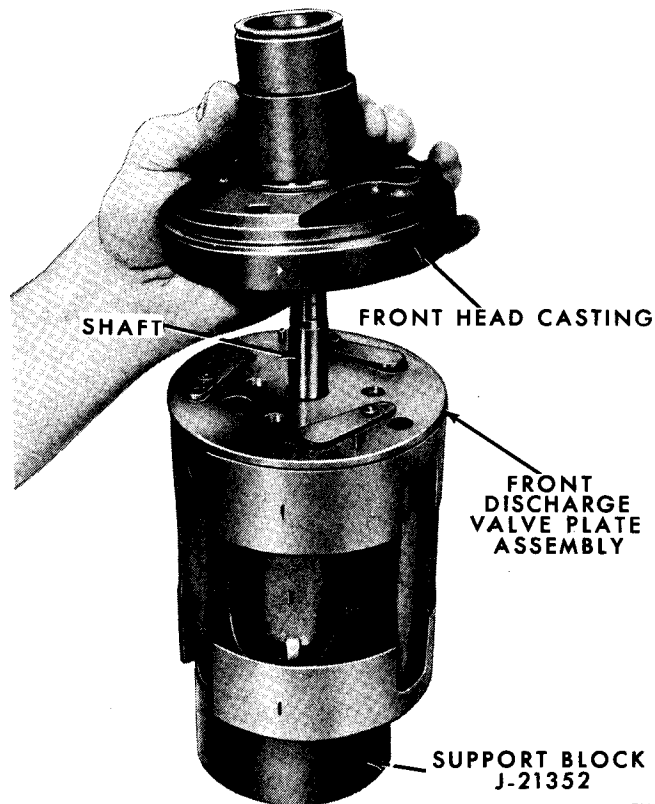

Figure 130—Installing Front Head Casting
7. Determine exact position of front head casting in relation to dowel pins on internal mechanism. Mark position of dowel pins on sides of front head assembly and on sides of internal mechanism with a grease pencil. Carefully lower front head casting into position (figure 130), making certain that sealing area around center bore of head assembly does not contact shaft as head assembly is lowered. Do not rotate head assembly to line up with dowel pins, as the sealing areas would contact reed retainers.